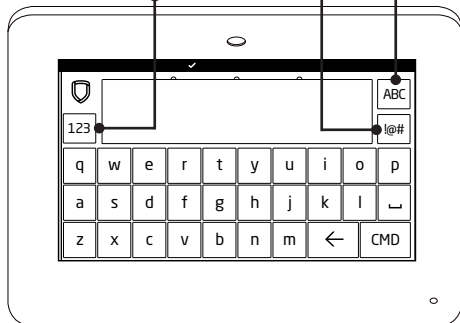

Figure 3: Standard Keyboard
- Press **123** to enter numbers and to return to the number pad. See Figure 3.